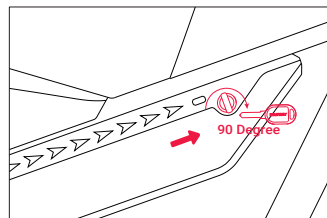
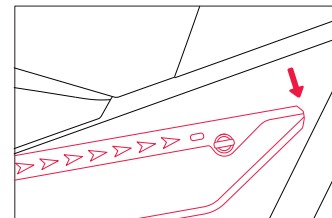

Figure 5
Figure 6
**Step 2:** Ensure the key is rotated to a 90-degree position and held there; then, push the battery towards the right side as shown in (fig.5). Once the battery has shifted, remove it by pulling it downwards (fig.6).